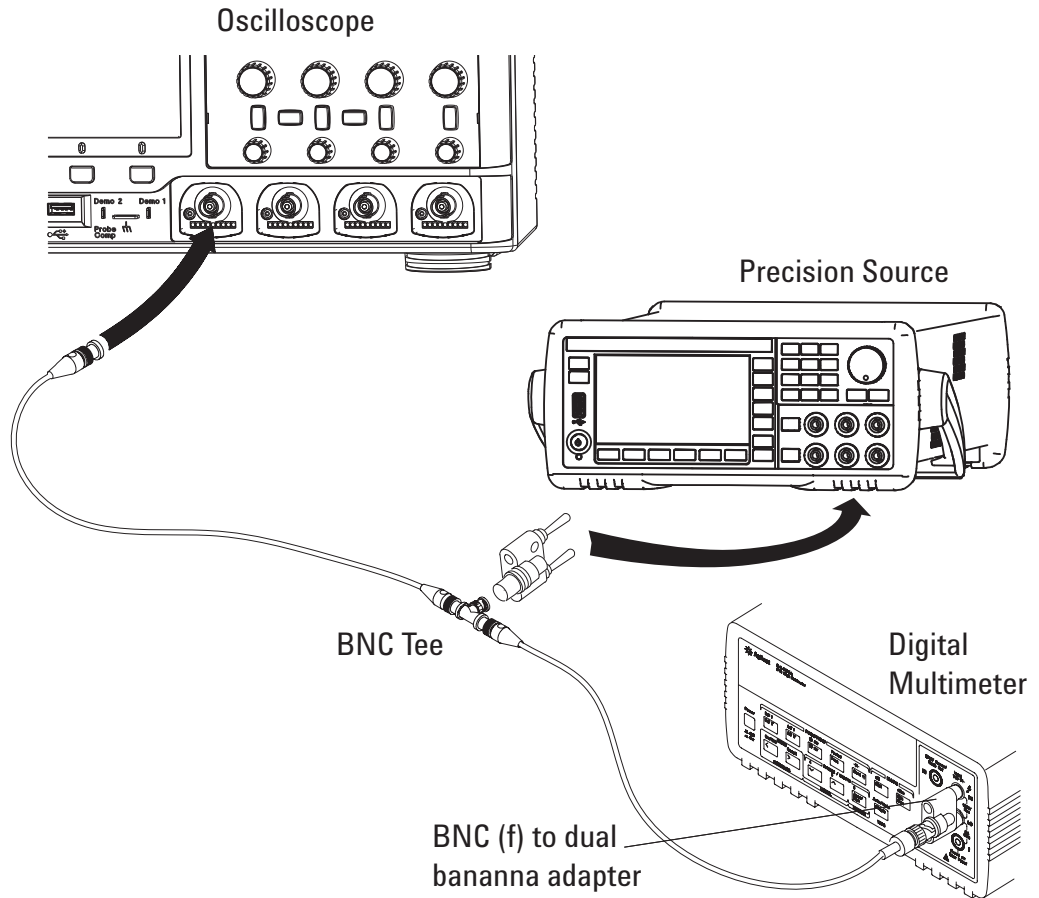

Figure 5 Setting up Equipment for Dual Cursor Accuracy Test
- 4 Use the BNC tee and cables to connect the precision source /power supply to both the oscilloscope and the multimeter (see **Figure 5**).